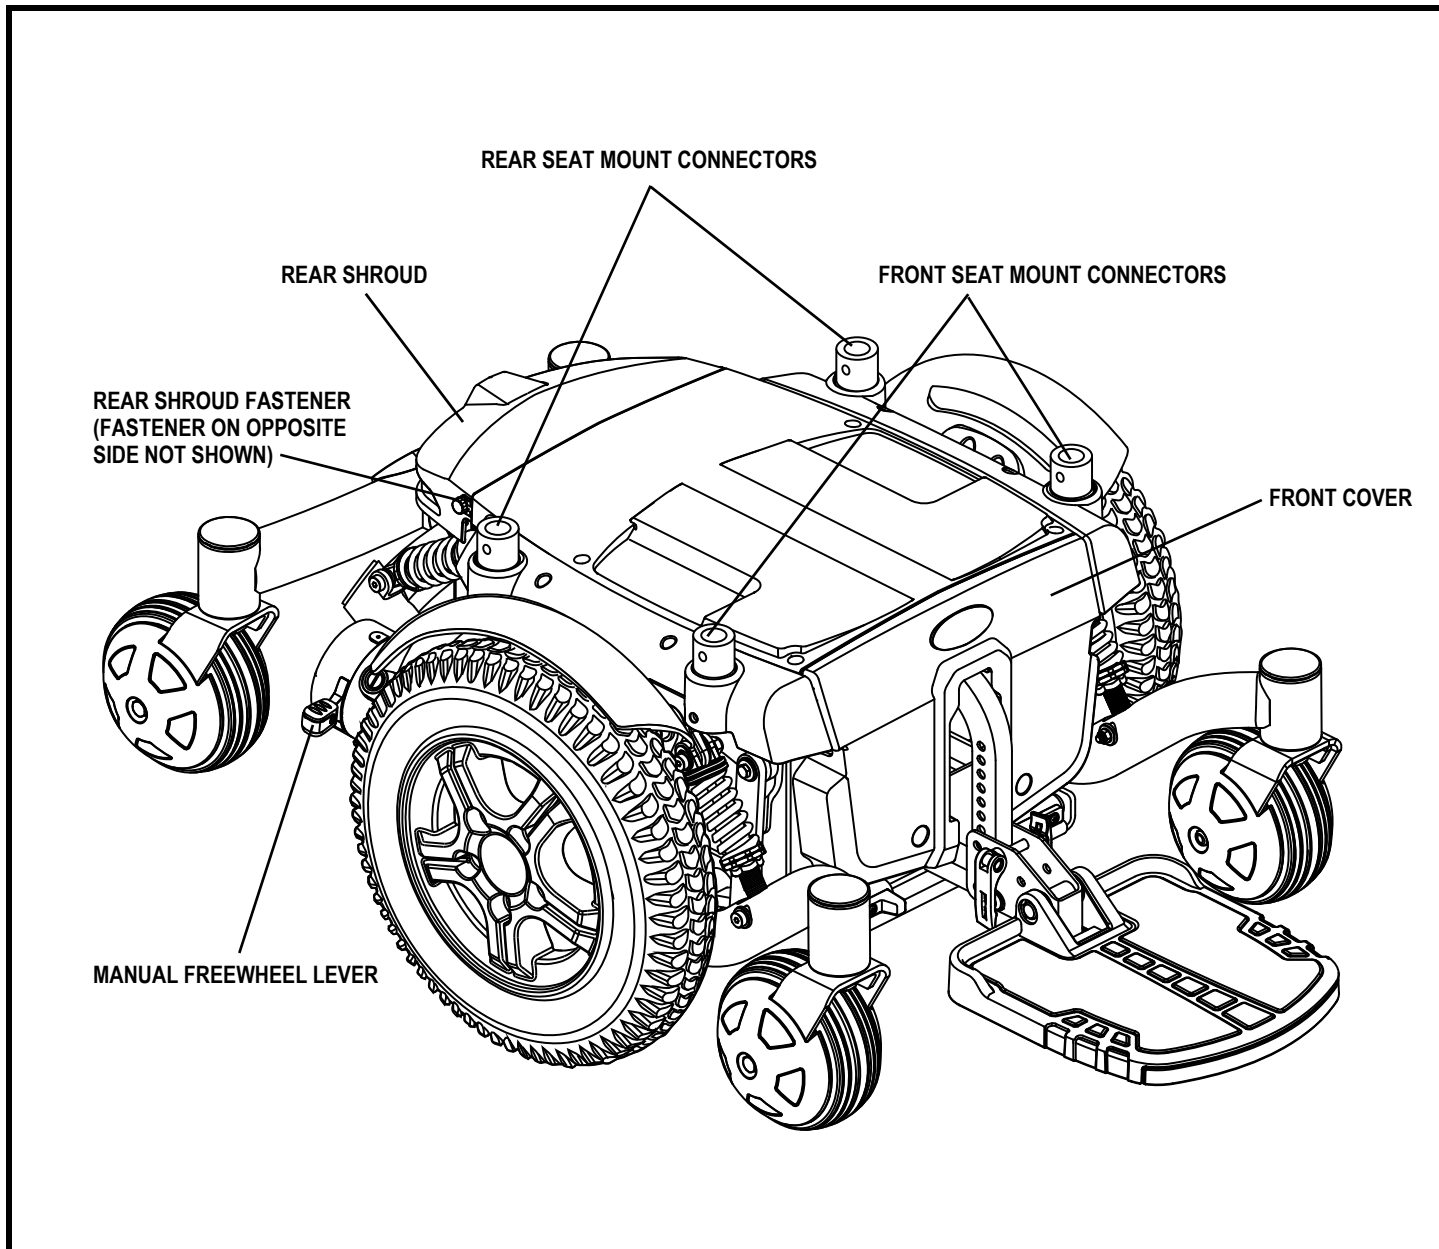

Figure 6. The Quantum 600 Sport HD Power Base
5. Loosen the rear shroud fasteners and remove the rear shroud. See figure 6.
7. Replace the rear shroud and tighten the rear shroud fasteners. See figure 6.
3. Loosen the rear shroud fasteners and remove the rear shroud. **See figure 6.**